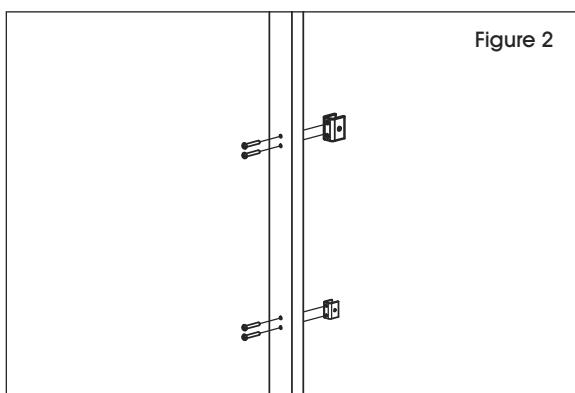

Figure 2
3. Attach one small U-bracket to each leg at the lower set of holes using 1¼" screws. Attach one large U-bracket to each leg at the upper set of holes, using 1¼" screws. (See Figure 2)